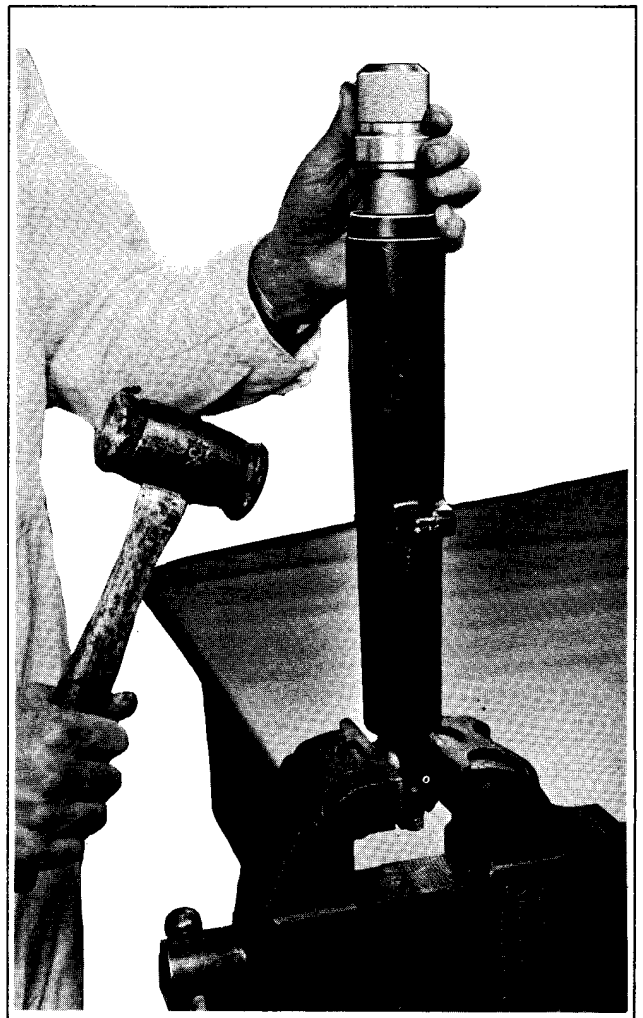

Figure 2-34. Inserting New Oil Seal
1. Replace upper oil seal (22) and felt washer (21) in top of fork slider. Wash chips and oil from fork slider and position new oil seal in counterbore. Drive oil seal into counterbore and against seat with driver (Part No. 96250-50, Figure 2-77) and mallet as shown in Figure 2-34. Drive with light blows and stop immediately when seal has bottomed. Insert spring ring washer (20) and spring ring (19). Position spring ring so its gap is directly over water drain hole in slider top.
Suspend filler can above motorcycle so that when improvised fork tube cap is assembled in fork filler opening there will be an ample slack in flexible tubing becoming taut (see Figure 2-34 B).